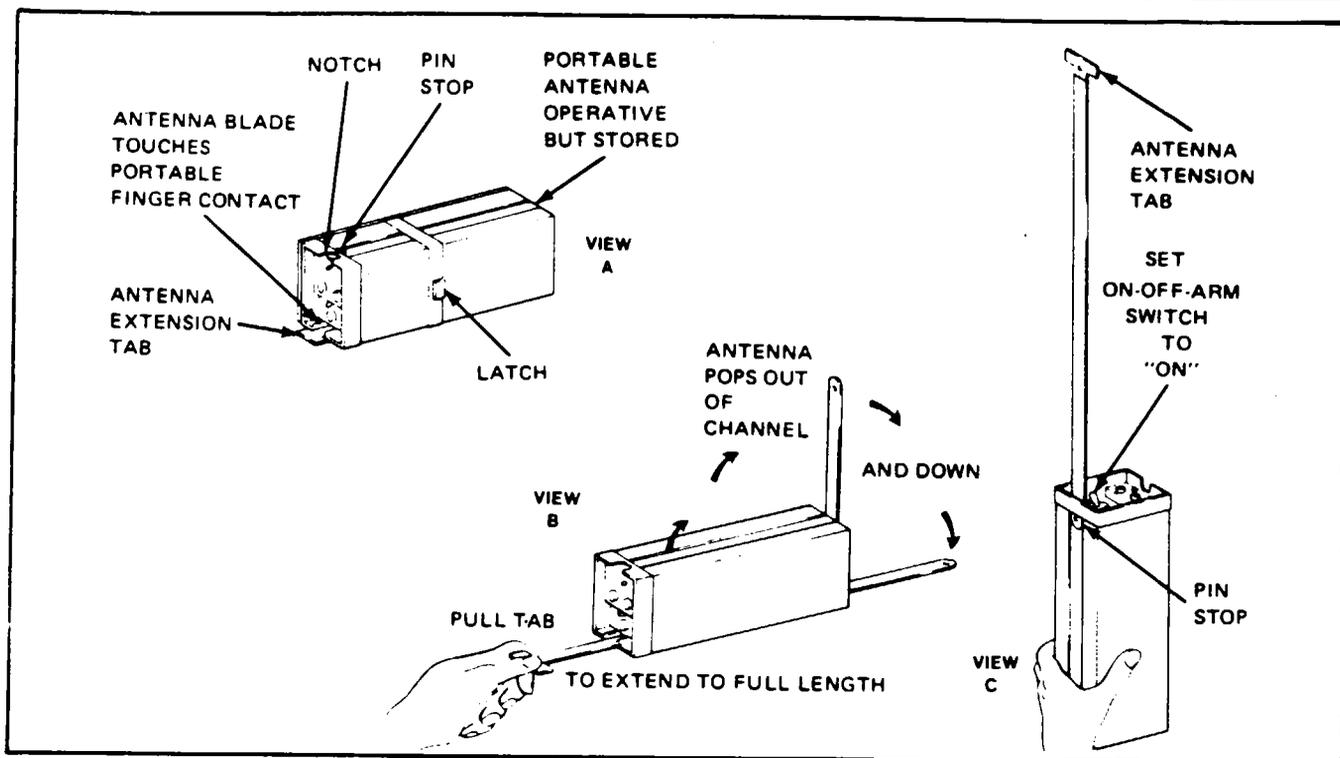

Figure 23-1. Portable Folding Antenna (Narco)
**BATTERY REMOVAL AND INSTALLATION.** (Refer to Figures 23-1 and 23-2.)
5. Extend the portable antenna. (See Figure 23-1.)